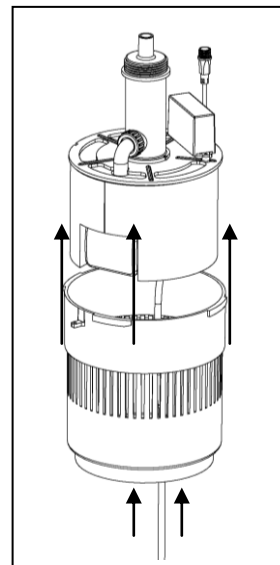

Fig. 8
4. Lift the pump and filter assembly up from the fountain. NOTE: In order to extract the filter assembly from the flotation basket, the main power cord must be fed up through the bottom of the flotation basket. Fig. 8